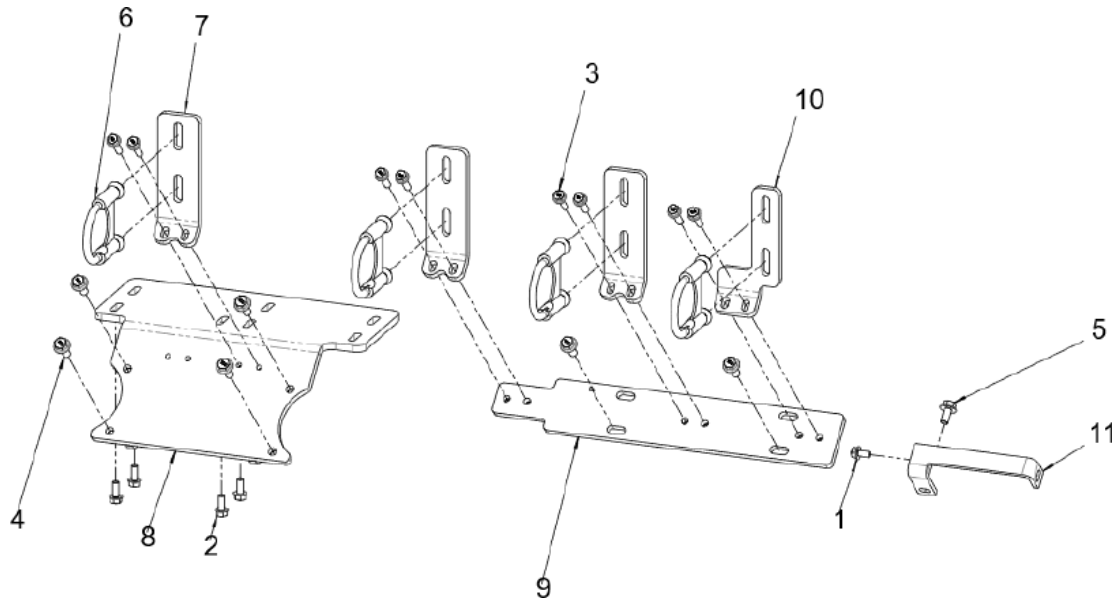
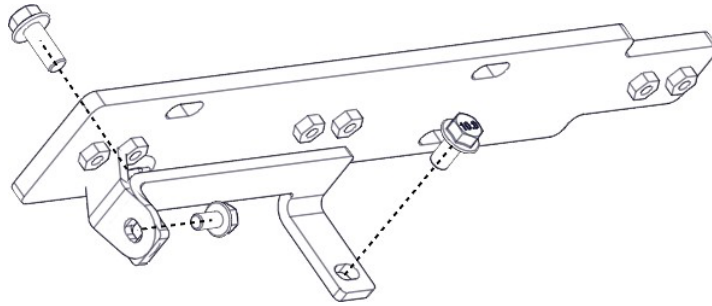
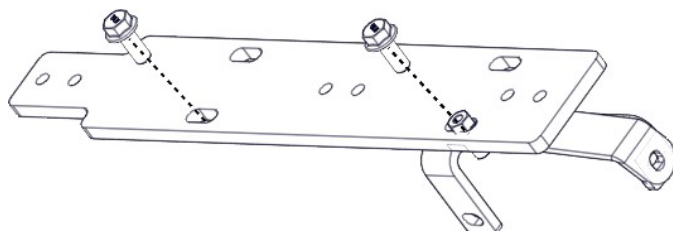

Figure 39. Left Fuel Mounting Bracket Assembly
Figure 40.
Figure 42.
1. Remove the U-clamps (Figure 39, item 6) and bolts (If not already removed).
2. Remove the bolts (Figure 39, item 3) from all supporting brackets on the lock-off plate (Figure 39, item 9).
3. Remove the two bolts on the lock-off plate (Figure 39, item 9) and remove the thermostat housing bolts (Figure 40).
4. Remove the lock-off plate (Figure 39, item 9) and the thermostat housing bracket (Figure 39, item 11).
5. Remove the U-clamp (Figure 39, item 6) from the MFG bracket (Figure 39, item 8).
6. Remove the two bolts from the MFG supporting bracket (Figure 39, item 7).
8. Remove the four bolts (Figure 39, item 4) on the MFG bracket (Figure 39, item 8).
9. Remove the MFG bracket (Figure 39, item 8).
1. Place the MFG bracket (Figure 39, item 8) on top of the exhaust manifold and insert and torque down the four MFG bracket bolts (Figure 39, item 4) to 60 ft/lbs.
2. Place the MFG support bracket (Figure 39, item 7) onto the MFG bracket (Figure 39, item 8) and insert and torque down the two MFG support bracket bolts to 22 ft/lbs.
4. Place the lock-off plate (Figure 39, item 9) onto the exhaust manifold and insert and torque down the two lock-off plate bolts (Figure 42) to 60 ft/lbs.
5. Place the MFG supporting brackets and the lock-off supporting bracket (Figure 39, items 7 and 10) onto the lock-off bracket (Figure 39, item 9).